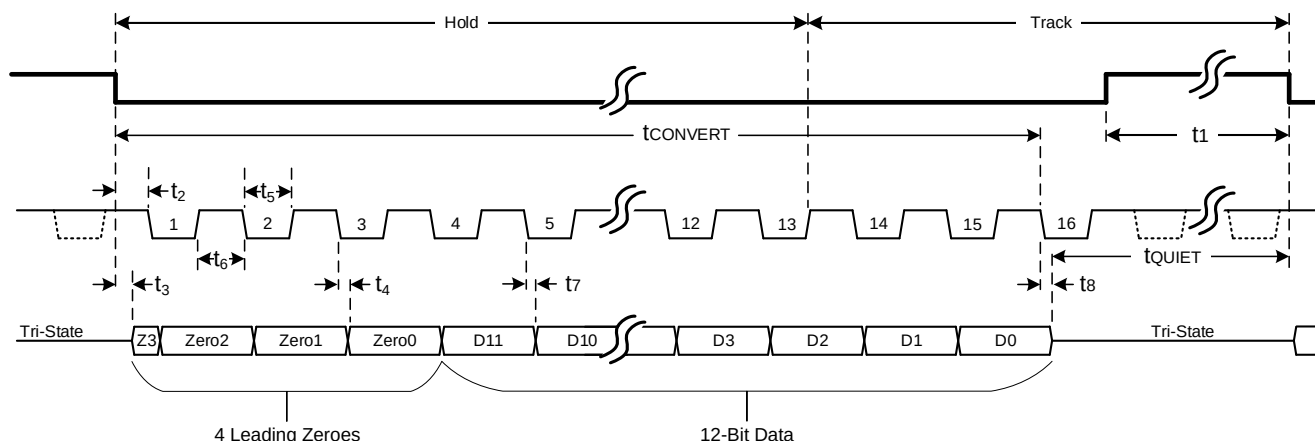
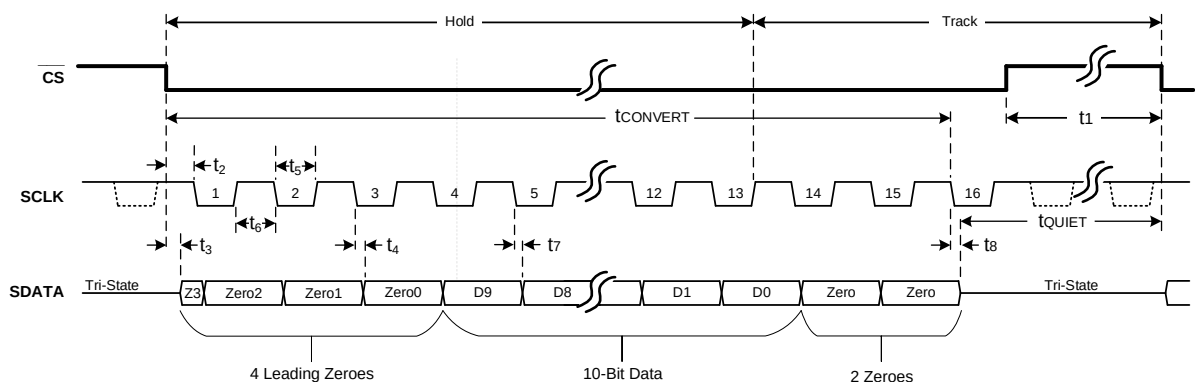
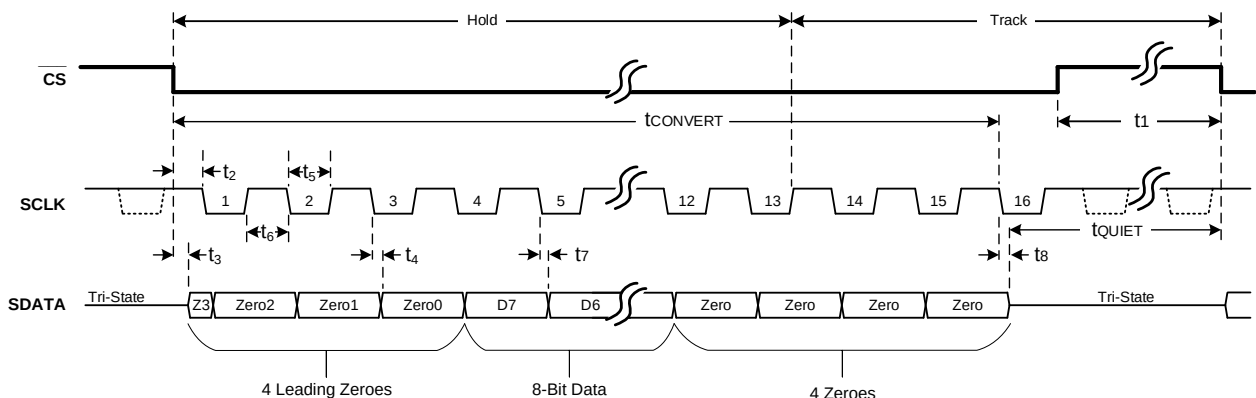

Figure 2: MDC97476 Serial Interface Timing Diagram
Figure 3: MDC97477 Serial Interface Timing Diagram
Figure 4: MDC97478 Serial Interface Timing Diagram
- 8) For  $t_{SCLK}$ ,  $t_{ON}$ ,  $t_{QUIET}$ , and  $t_1$ – $t_8$ , see Figure 2 on page 13.
into tri-state mode either at the 16th falling edge of SCLK after  $\overline{CS}$  goes low, or at the rising edge of  $\overline{CS}$ . After SDATA outputs all data and goes back to tri-state, the ADC must wait for the minimum quiet time ( $t_{QUIET}$ ) before starting a new conversion. This means that the next falling edge of  $\overline{CS}$  cannot happen until  $t_{QUIET}$  has elapsed (see Figure 2).
The  $\overline{CS}$  pin's falling edge should only occur when SCLK is high. Figure 2 shows the detailed timing diagram for the MDC97476. Figure 3 on page 14 shows the detailed timing diagram for the MDC97477. Figure 4 on page 14 shows the detailed timing diagram for the MDC97478.